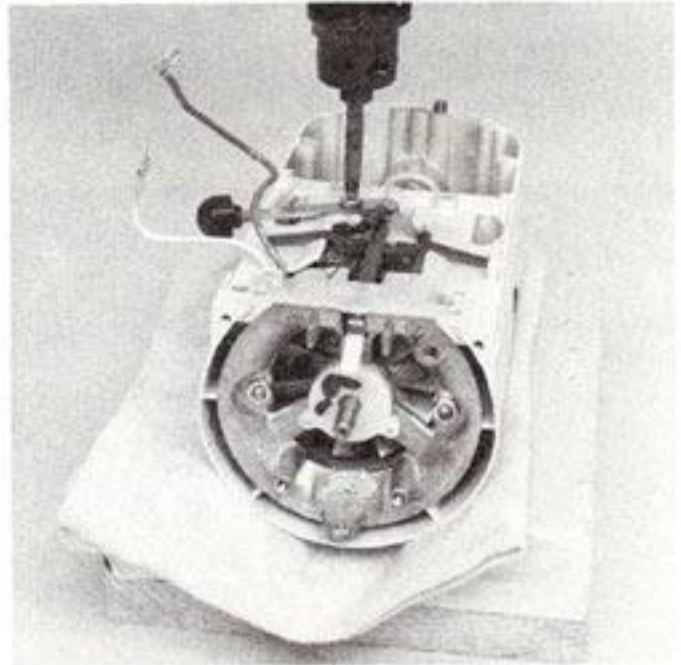
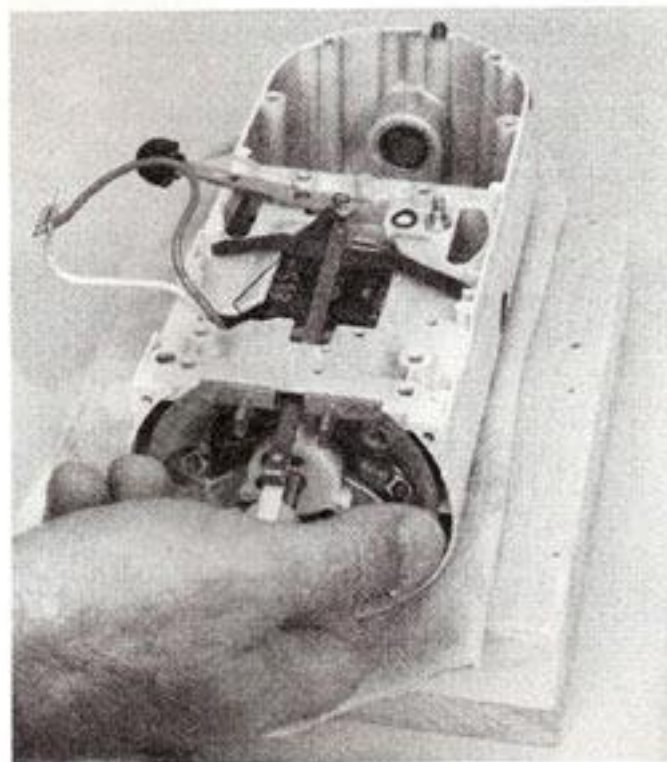

Fig. 45
Fig. 44
- L. Place the speed control link and cam assembly through the slot in the bearing bracket with the cam portion of the speed control link and cam assembly toward the top of the gear case and motor housing. Place flat spring in position and slide the speed link and cam assembly over the flat spring (Fig. 44). Place the speed control spring on the switch lever stud. Place the speed control link and cam assembly over the stud on the switch lever. Place the tension washer on the pivot screw and screw it into the gear case and motor housing until tight (Fig. 45).